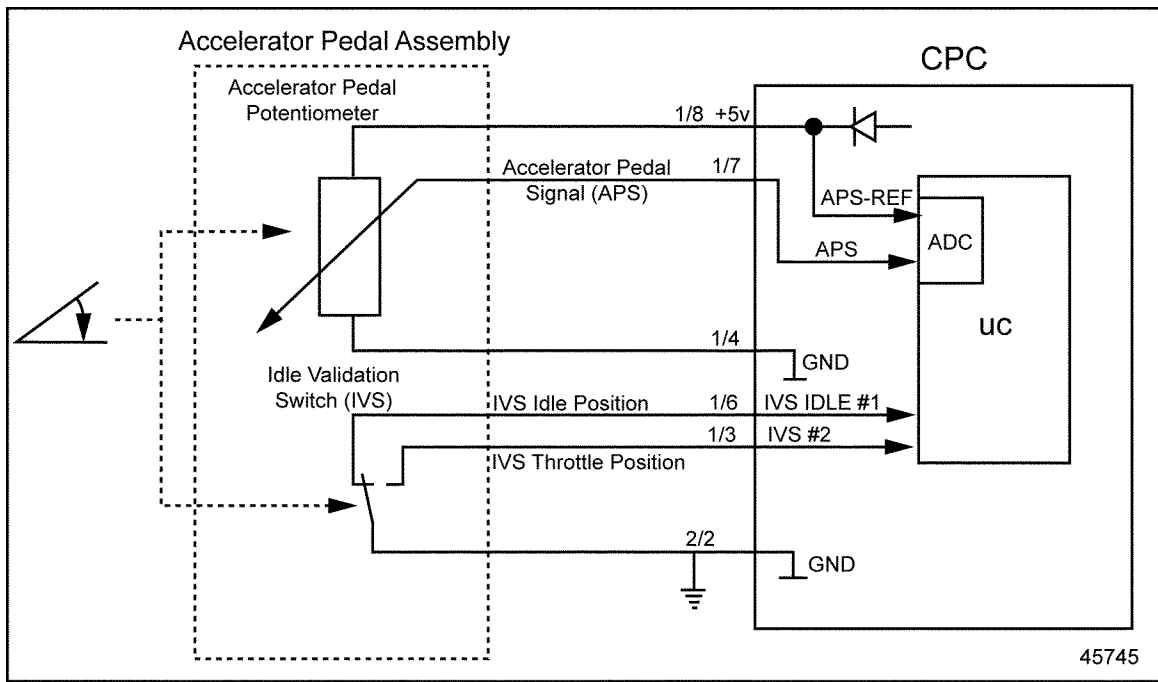

Figure 24-1 Accelerator Pedal Assembly Installation
1. Disconnect the Accelerator Pedal (AP).
3. Measure the voltage between pins B and C of the AP harness connector. See Figure 24-1.